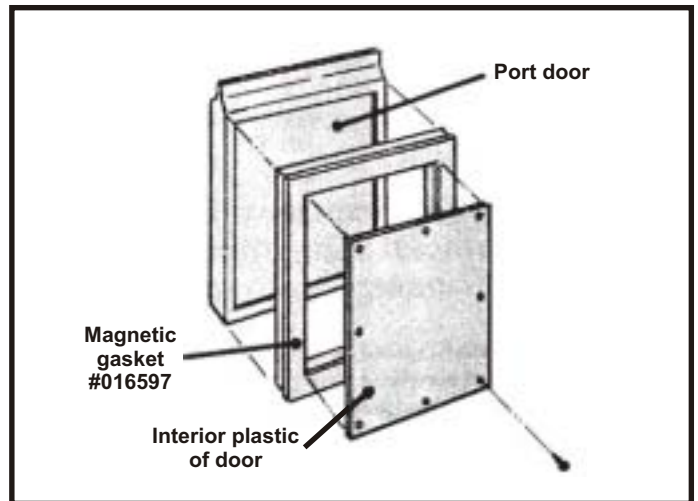

Fig. 10
- A. Remove the port door by removing the two screws from the poly-hinge at the top of the door. See Fig. 10.